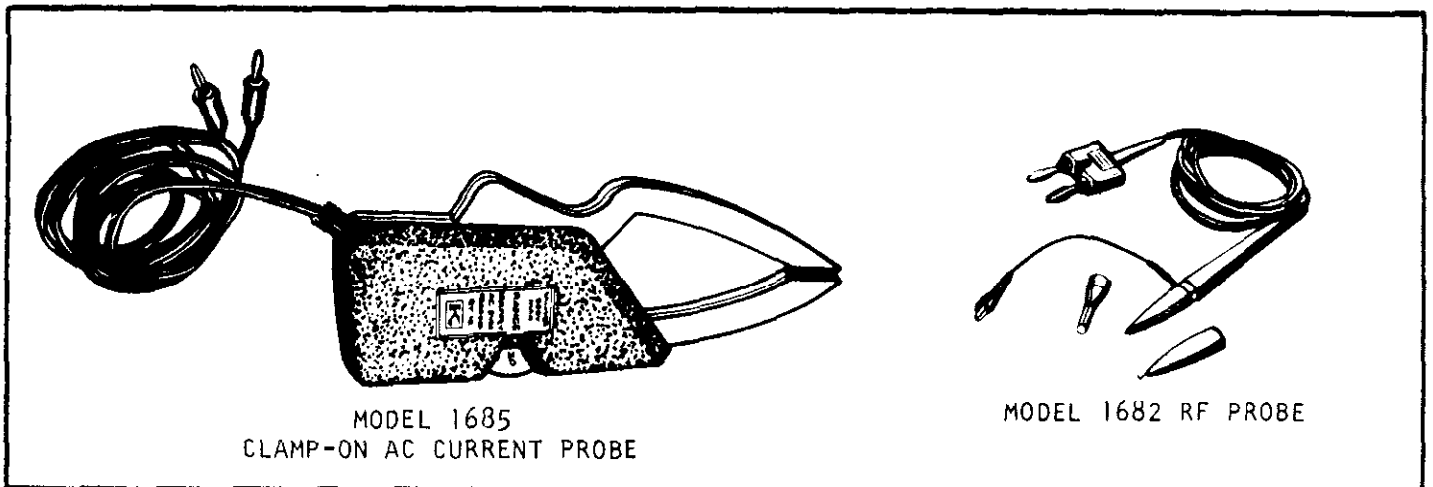

FIGURE 2-6. Model 1682 RF Probe and Model 1685 Clamp-On AC Current Probe.
e. Model 1682 RF Probe. The Model 1682 RF Probe (shown in Figure 2-6), permits measurement of ac voltages at frequencies of 20 kilohertz to 100 megahertz. Connect the probe to the input terminals and select ACV and the appropriate range.
f. Model 1685 Clamp-On AC Current Probe. The Model 1685 Clamp-On AC Current Probe (shown in Figure 2-6) permits measurement of ac current by clamping around a single conductor, eliminating the need to interrupt the current path. Plug the ac current probe into the DMM and select ACV and the appropriate range. The DMM will display 0.1 volt rms per ampere.